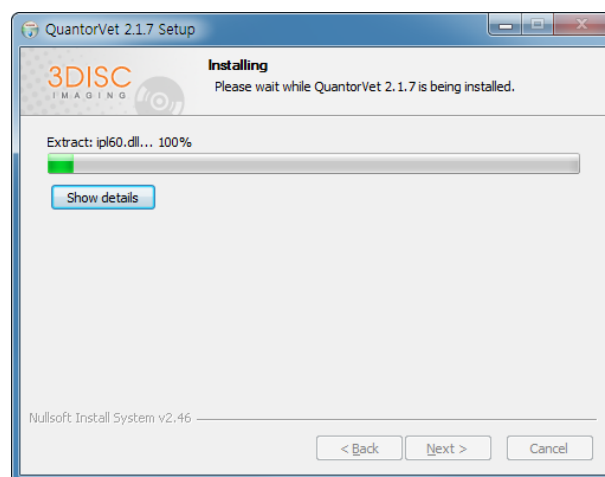

Figure 2.7 Install Status Dialog Box
- Installation status will be displayed as shown in Figure 2.7.